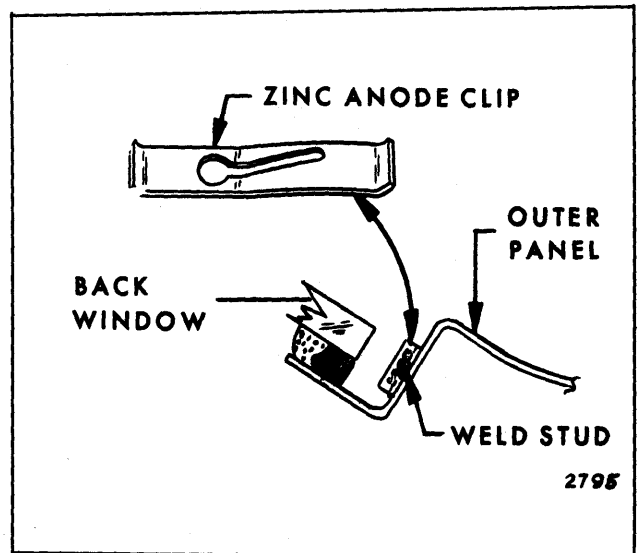

Fig. 17-6—Zinc-Anode Clip Installation
2. Install alternate replacement clip (Group 10.096) as shown in Figure 17-6. Use self sealing screw or apply body caulking compound around clip hole to effect a watertight seal.